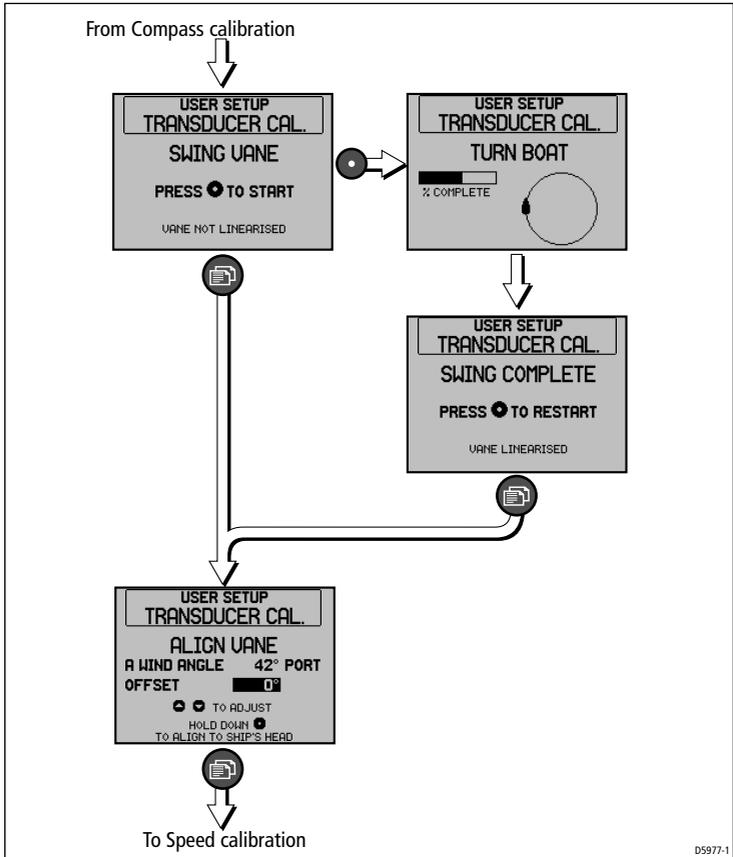

Figure 2-23: Wind vane calibration (Graphic Display)
1. Select the ALIGN VANE page (see Figure 2-23).